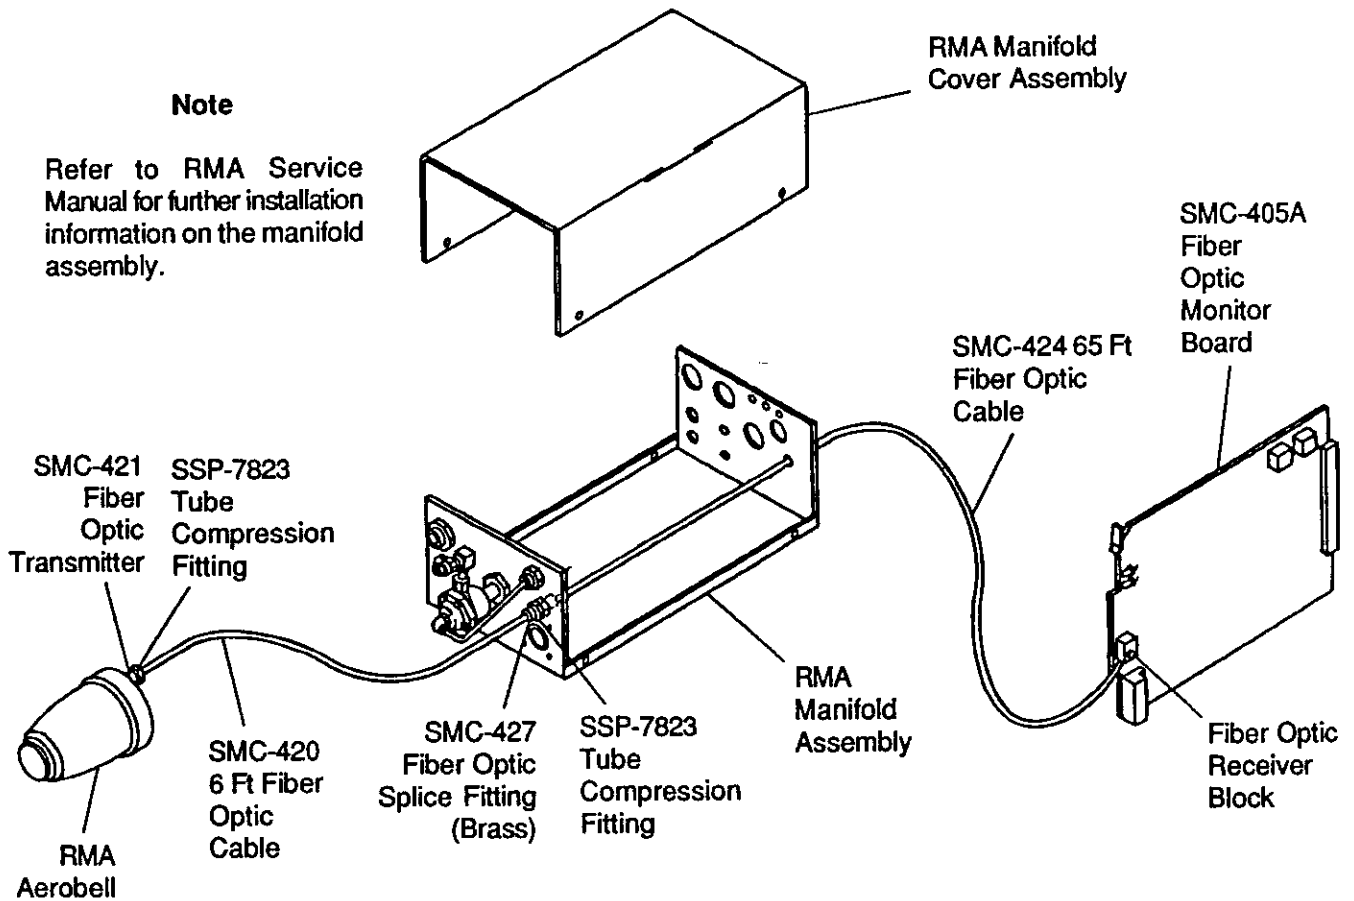

Figure 13. RMA Fiber Optic Equipment Installation
1. The fiber optic transmitter and 6 foot cable assembly are factory installed into the RMA atomizer, Figure 13.